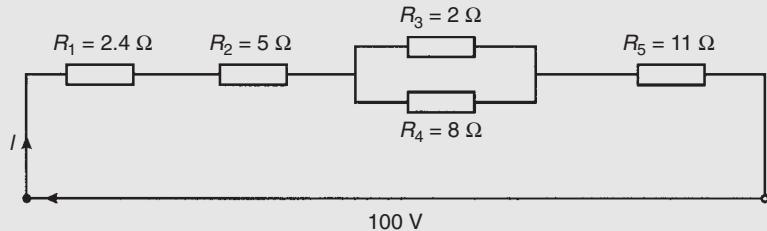

Figure R2.1
- Resistances of 5Ω , 7Ω , and 8Ω are connected in series. If a $10V$ supply voltage is connected across the arrangement determine the current flowing through and the p.d. across the 7Ω resistor. Calculate also the power dissipated in the 8Ω resistor. (6)
- For the series-parallel network shown in Fig. R2.1, find (a) the supply current, (b) the current flowing through each resistor, (c) the p.d. across each resistor, (d) the total power dissipated in the circuit, (e) the cost of energy if the circuit is connected for 80 hours. Assume electrical energy costs $14p$ per unit. (15)
- The charge on the plates of a capacitor is 8 mC when the potential between them is 4 kV . Determine the capacitance of the capacitor. (2)
- Two parallel rectangular plates measuring 80 mm by 120 mm are separated by 4 mm of mica and carry an electric charge of $0.48\text{ }\mu\text{C}$. The voltage between the plates is 500 V . Calculate (a) the electric flux density (b) the electric field strength, and (c) the capacitance of the capacitor. (8)
- capacitance of the capacitor, in picofarads, if the relative permittivity of mica is 5. (7)
- A $4\text{ }\mu\text{F}$ capacitor is connected in parallel with a $6\text{ }\mu\text{F}$ capacitor. This arrangement is then connected in series with a $10\text{ }\mu\text{F}$ capacitor. A supply p.d. of 250 V is connected across the circuit. Find (a) the equivalent capacitance of the circuit, (b) the voltage across the $10\text{ }\mu\text{F}$ capacitor, and (c) the charge on each capacitor. (7)
- A coil of 600 turns is wound uniformly on a ring of non-magnetic material. The ring has a uniform cross-sectional area of 200 mm^2 and a mean circumference of 500 mm . If the current in the coil is 4 A , determine (a) the magnetic field strength, (b) the flux density, and (c) the total magnetic flux in the ring. (5)
- A mild steel ring of cross-sectional area 4 cm^2 has a radial air-gap of 3 mm cut into it. If the mean length of the mild steel path is 300 mm , calculate the magnetomotive force to produce a flux of 0.48 mWb . (Use the B-H curve on page 74) (8)